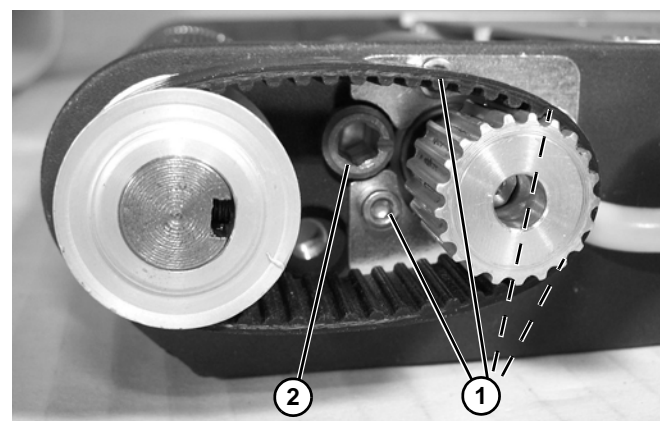

Figure 70
4. Loosen four clamp plate screws (**Figure 70, item 1**).
5. Loosen timing belt tension cam (**Figure 70, item 2**).